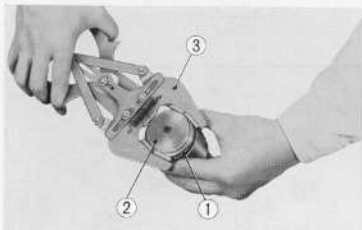

Fig. 3.50 Removing the piston ring
- Remove the piston rings ① from the piston ② by using a ring removing tool (special tool) ③. If no tool is available, the rings may also be removed by hand, by spreading the ring at the opening with both hands, the ring should not be twisted. (Fig. 3.50)